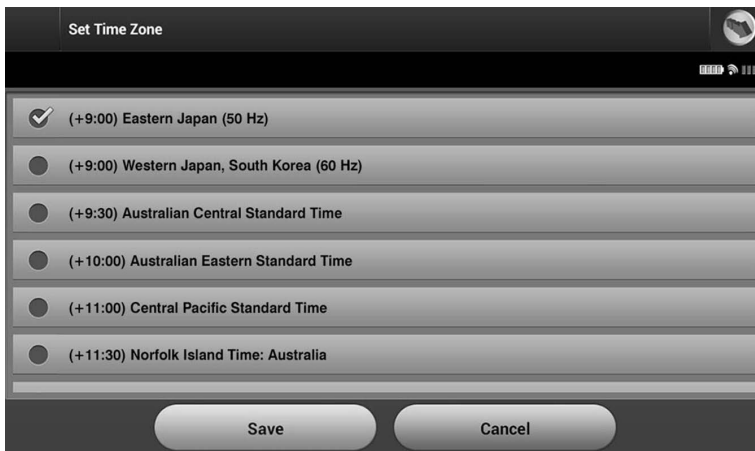

Figure 4: Set Time Zone screen (scrollable list)
1. Select Set Time Zone on the Programmer Settings screen. The time zone selection screen appears (Figure 4 on page 19).